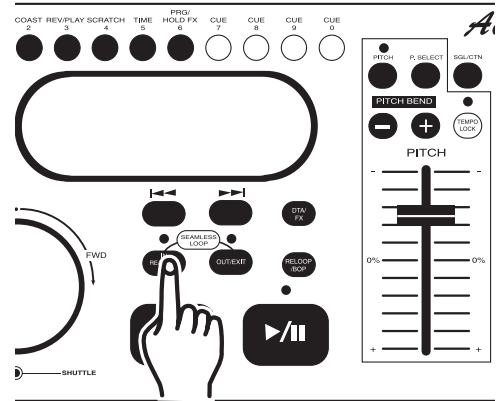

Figure 18
A cue point is the exact point playback will begin when the *PLAY/PAUSE BUTTON (29)* is pressed. A cue point may be anywhere on a disc or in a track. You may set and store up to five independent cue points per disk. Four cue points are stored in the *CUE MEMORY BUTTONS (6)* and one in the *IN REAL-TIME CUE BUTTON (26)*. Once a cue point is set it may be recalled at any time during normal playback. Figures 18 and 19 will detail the procedures for setting your custom cue points. There are two ways to set a CUE point:
- 1) Press the *IN REAL-TIME CUE BUTTON (26)* on the fly (while a disc is playing). This will set a CUE Point without music interruption. Once this point is set, you may return to this point at any time by pressing either the *CUE BUTTON (27)* or the *RELOOP/BOP BUTTON (30)*. Pressing the *CUE BUTTON (27)* will stop playback and return the disc in cue mode, pressing the *RELOOP/BOP BUTTON (30)* will return the disc to cue point without music interruption and continue playback from that point.